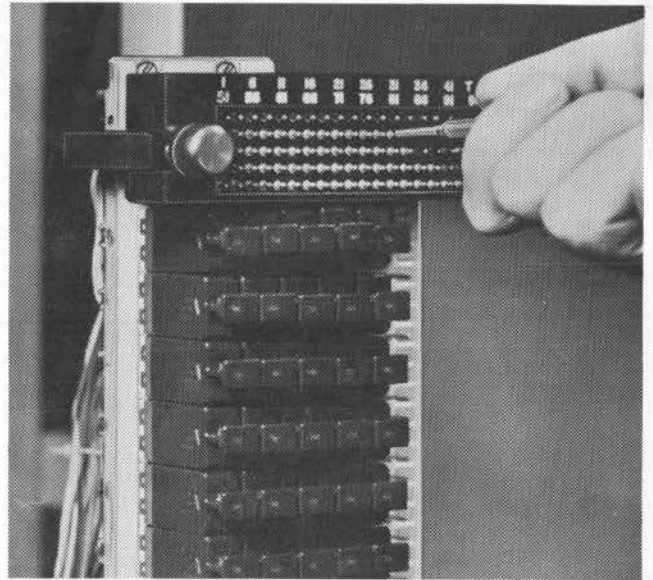

Figure 22
- 8.05 The "H" Test Connector (see figure 22) plugs into either the top or bottom test field on the C-303 Connector to provide terminals for testing with a test probe. Damage to the test field contacts is thereby minimized.